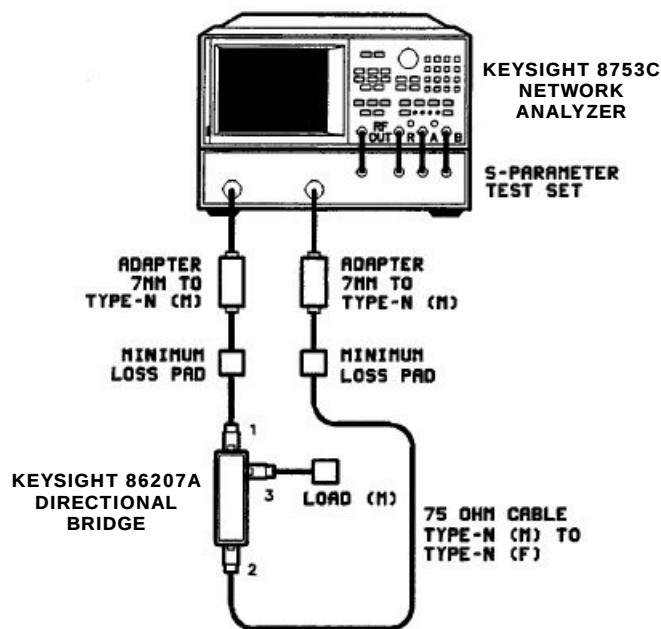

Figure 3-2 Equipment setup for insertion loss measurement
- 3 Connect the equipment as shown in Figure 3-2.